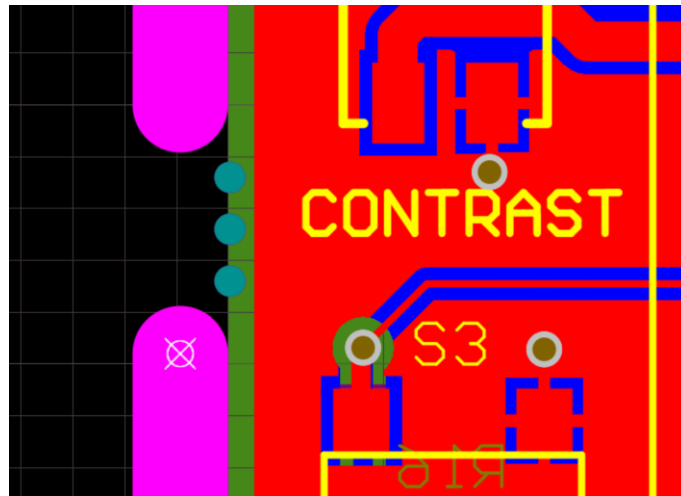

Figure 23. Placing the breakout tab on the route path edge
51. With the `SINGLE_SIDE_BREAKOUT` footprint on your cursor, place the origin of the footprint onto the edge of the route path gap, as shown in Figure 23. Use the **Spacebar** to rotate the footprint as necessary.